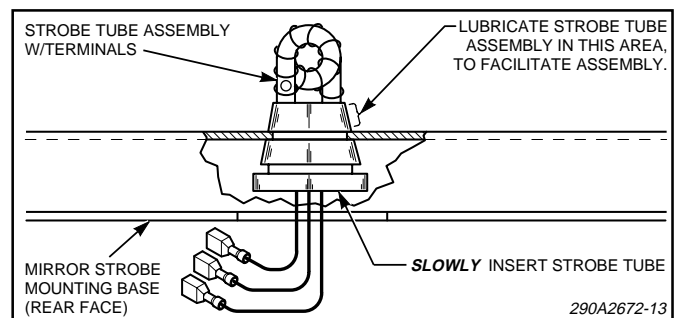

Figure 5.
f. See figure 5. SLOWLY insert the new strobe tube in the mounting bar until it is properly seated in the top slot of the strobe tube. If the strobe tube is difficult to insert, remove it and apply a high temperature grease, or Vaseline, to the rubber edge of the strobe tube and try again.